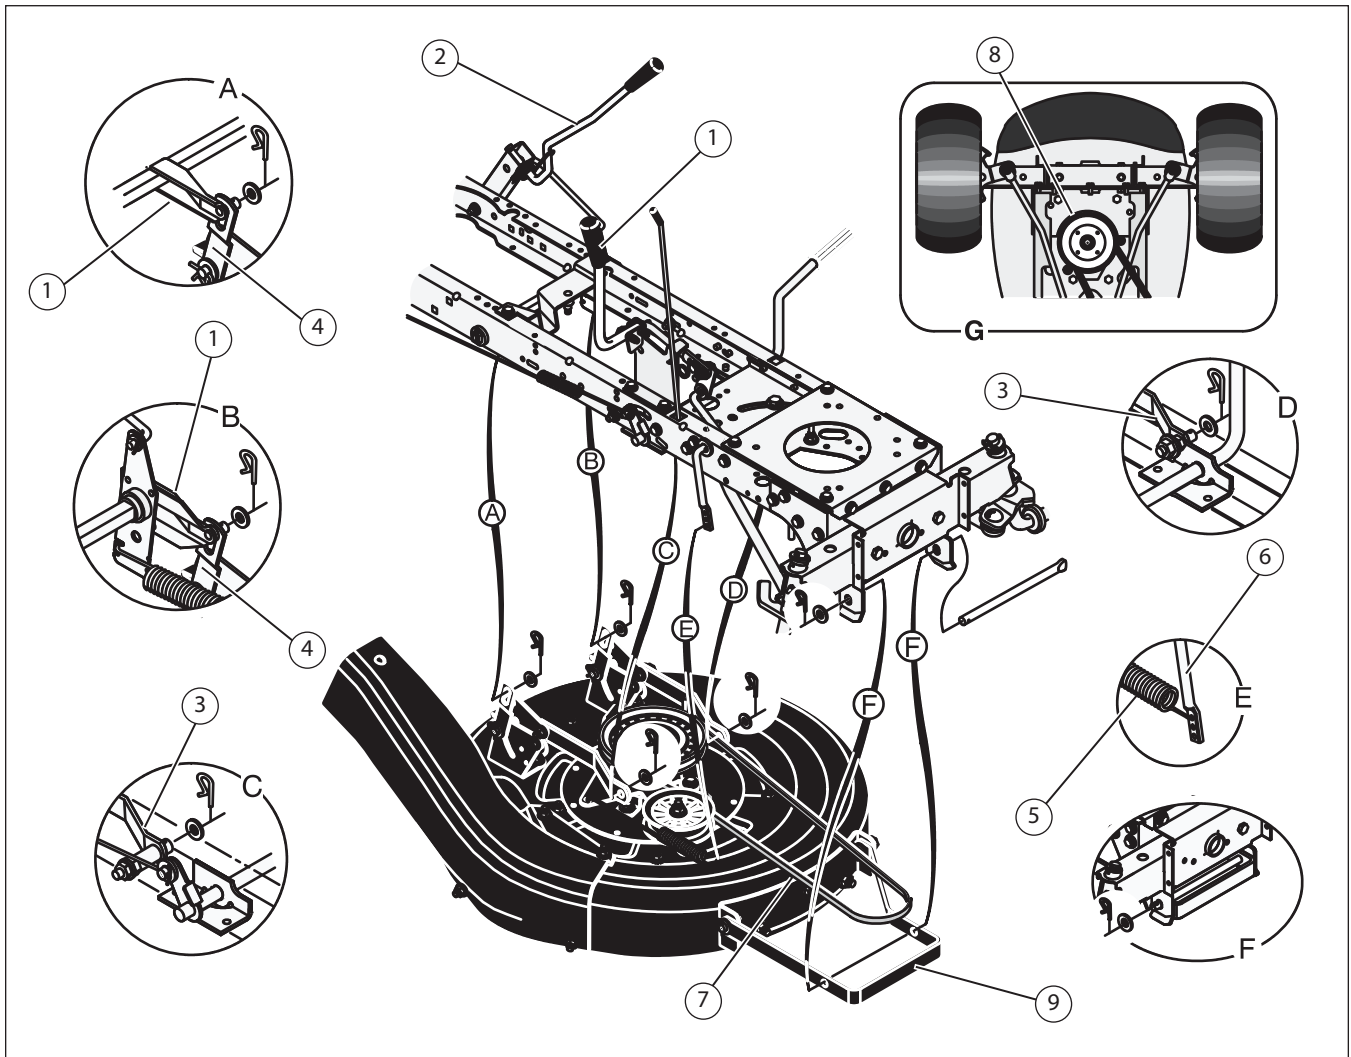

Figure 37
1. Move the blade rotation control (1) to the DIS-ENGAGE position (see **Figure 37**).
2. Move the lift lever (2) to the lowest position.